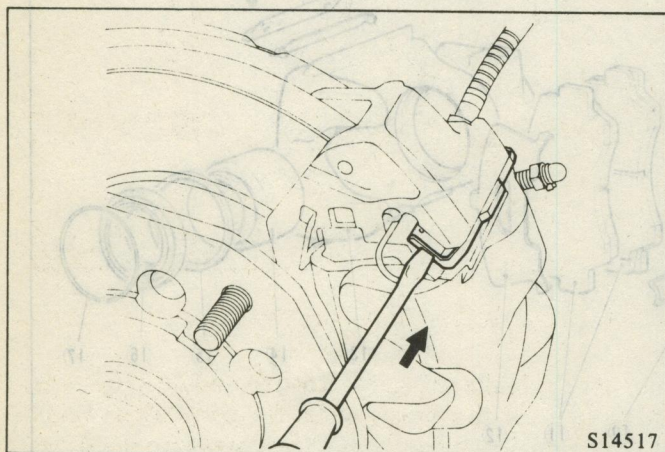

Fig. 19 Removing the Stopper Plug
- (1) Remove the wheel.
- (2) Remove the spigot pin, and pull out the stopper plug. (Fig. 19)